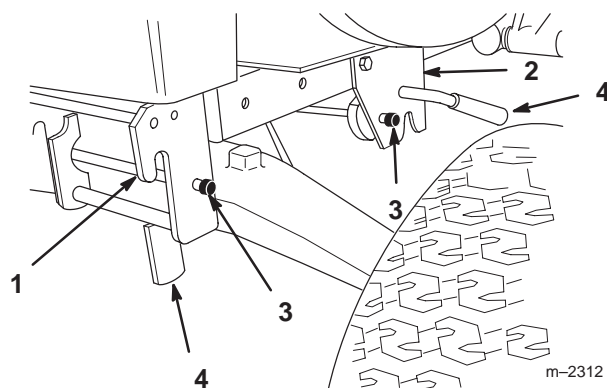

Figure 4
- Open front and mid-mount hitches by pushing release button and moving lock handles forward (Fig. 4).